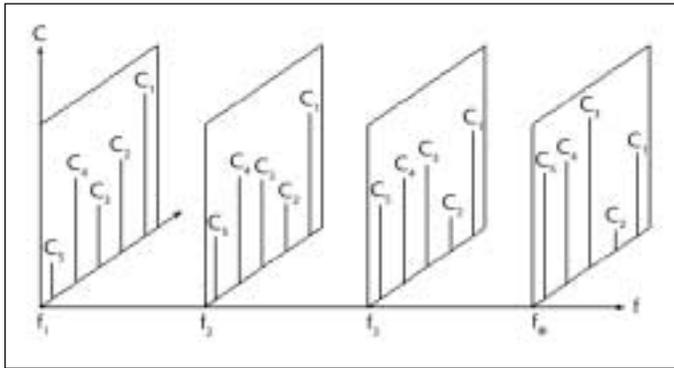

Figure 4. Creation of the coefficients of orthogonal multinomials at discrete frequencies.
3. This model is written as a sum of orthonormal multinomials. The coefficients preceding the orthonormal multinomials in the sum are frequency-dependent (see Figure 4).